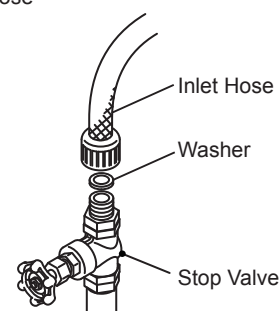

Fig. 4
- 1) Attach the free end of inlet hose to the stop valve (Fig. 4), noting washer is correctly positioned. Hand tighten sufficiently to provide leak free joint. It is a wise precaution to have the stop valve within easy reach.
- 4) Close the potable water supply line stop valve. See Fig. 4.